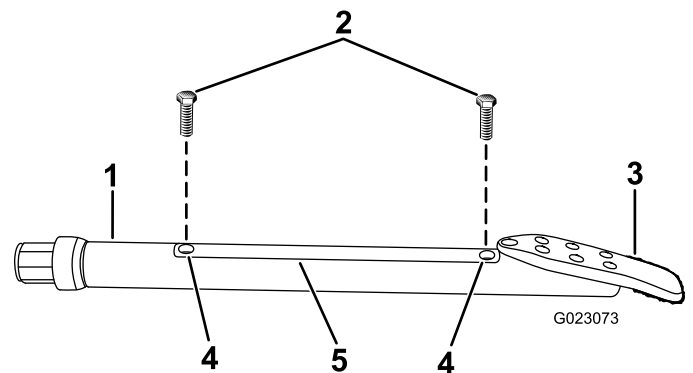

Figure 38
2. Loosen the screws securing the housing cover to the housing and remove the cover (Figure 38).
4. Install the housing cover and secure it with the screws (Figure 38).